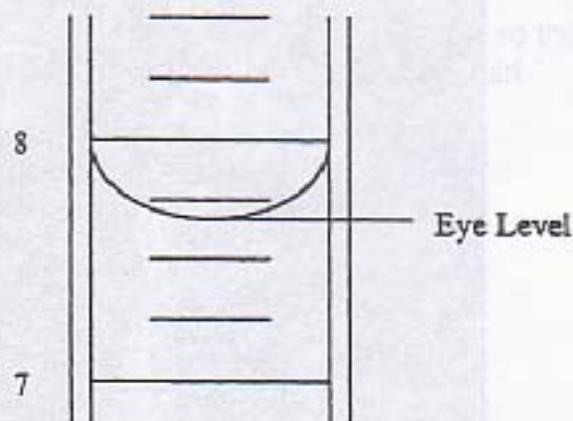

FIGURE 1 MEASURING VOLUME WITH A GRADUATED CYLINDER
**Graduated cylinders.** These are used if reasonable accuracy is important. A 10-mL graduated cylinder has 1-mL graduation marks; these are numbered. Each 1 mL is divided into five small divisions of 0.2 mL each; these are not numbered. The position of the bottom of the liquid meniscus gives the volume reading. In Figure 1 the meniscus is between the 7.6 and 7.8 mL marks; the volume is more than 7.6 mL but less than 7.8 mL. Mentally divide the distance between the marks into smaller divisions and estimate where the meniscus lies along this scale. Because the 0.2-mL marks are so close together you will probably find it possible to divide the distance only into two halves rather than into smaller division such as tenths; that is, you will probably be able to distinguish a distance that is about halfway between the two marks but not a smaller distance. Volumes from about 7.65 mL to 7.75 mL would be indistinguishable and the meniscus would look like it was about halfway between 7.6 mL and 7.8 mL; your reading would therefore be 7.7 mL. Since any true volume from 7.65 mL to 7.75 mL would look the same to you, there is an uncertainty of 0.1 mL in the volume reading of 7.7 mL, as possible error that cannot be eliminated even with practice, for it arises from the limitations of your eyes and of the equipment.